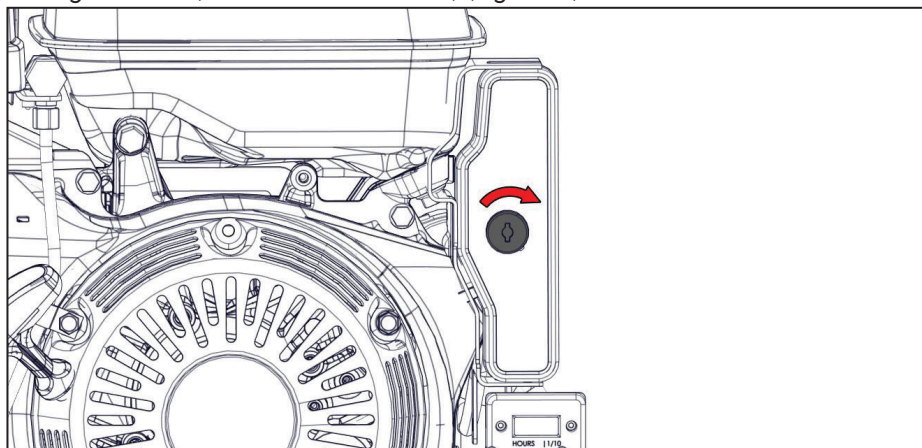

Figure 13 — Key switch
- 5) Turn the ignition key switch to the "START" position and hold it there until the engine starts (maximum of 5 seconds) (Figure 13).